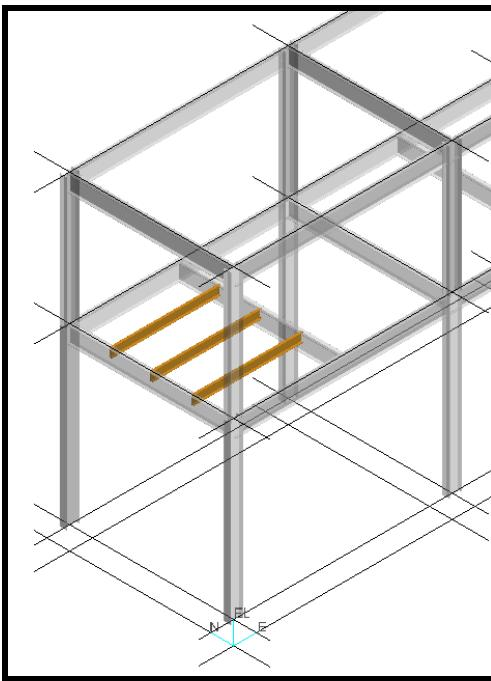

Figure 4 –Isometric View of the Structure U02
- 1 Select Place Framing Members command. Use the view shown in Figure 4 to place the structural members.